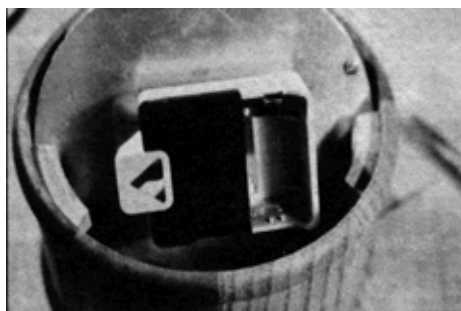

Figure 18
61. Assemble the 1/8" thick glass, bezel ring, dial plate, and movement (see **Figure 18**).